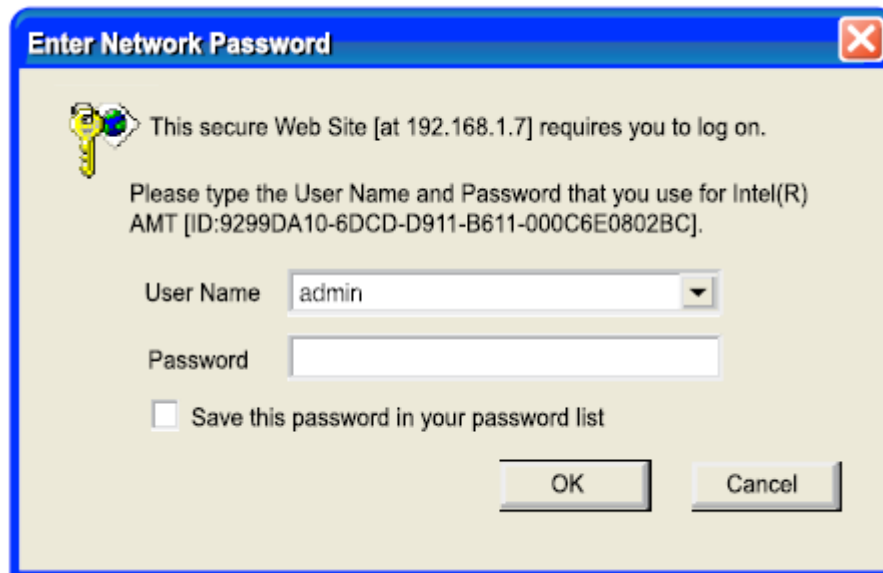

Figure 8-12: Intel® AMT Web Login Dialog
Step 5: A login window prompts (**Figure 8-12**).
- Step 6:** Enter admin as the user name (**Figure 8-12**).